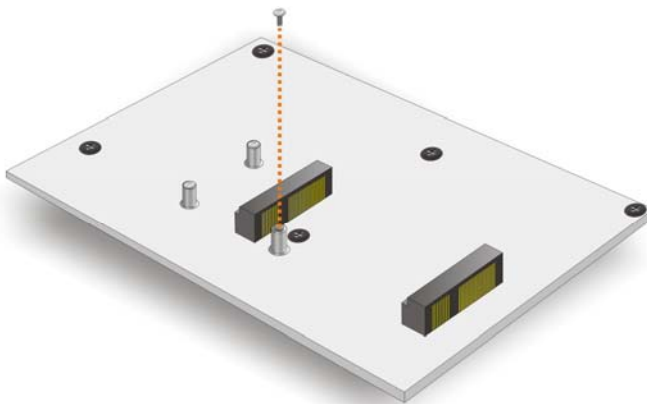

Figure 4-12: Remove the Retention Screw for the Full-size PCIe Mini Card
- Step 2:** **Remove the retention screw.** Remove the retention screw secured on the motherboard as shown in **Figure 4-12**.